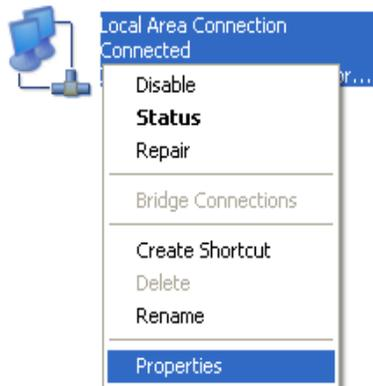

FIG. 14
3. Select the icon for the network connection you will be using to communicate with the VFD, right click on the icon, and select properties. See FIG. 14.